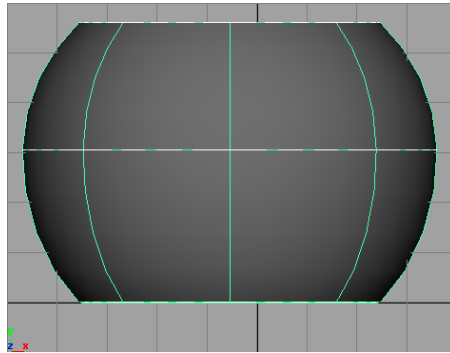

*Figure 3-65 The third circle scaled using **Scale Tool** in the front viewport*
6. Invoke **Scale Tool** and scale the third circle uniformly, refer to Figure 3-65.